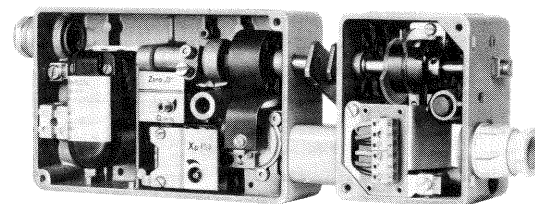

Fig. 2 · Type 763/4746-1 i/p Positioner (open) with inductive limit switch
**Type 763/4746-1** (Fig. 2), Positioner with inductive limit switch